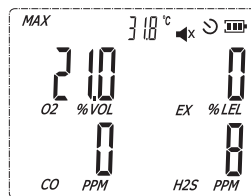
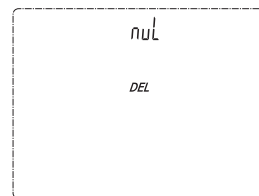

Figure 2
Figure 3
2) Left button : Under normal mode short press the MAX/MIN button to shift between the maximum and minimum values as shown in Figure 2 and long press to delete as shown in Figure 3.